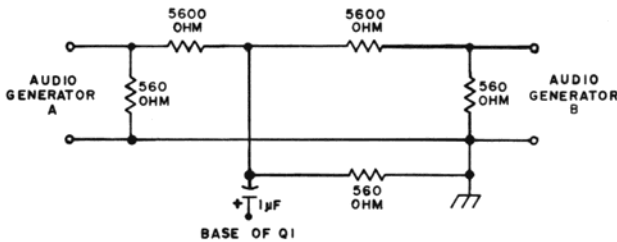

FIGURE 9
3. Connect AF generators to base of Q1 as shown in Figure 9.